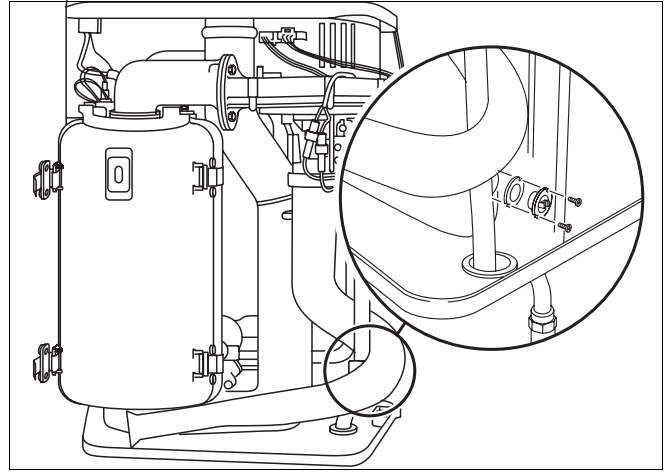

Fig. 38 Buderus 600 - 11R / 19R / 24R :
- Remove the flue gas sensor and replace with a new unit (fig. 38).